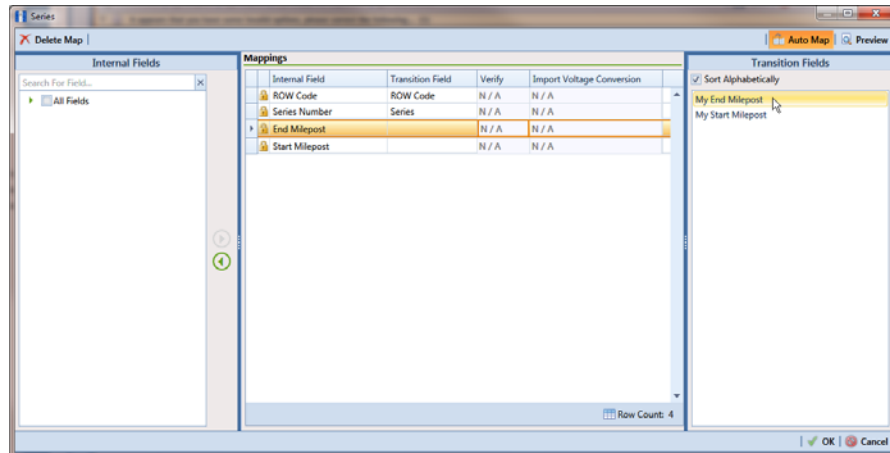

Figure 10-53. Field Mappings
- a** Click  **Edit** in the *Maps* group box to open a field mapping window (Figure 10-53, page 509).
NOTE: Fields in the *Mappings* panel with a lock icon  are required fields for mapping, such as *ROW Code*, *Series*, *End Milepost*, and *Start Milepost* shown in Figure 10-53 (page 509).